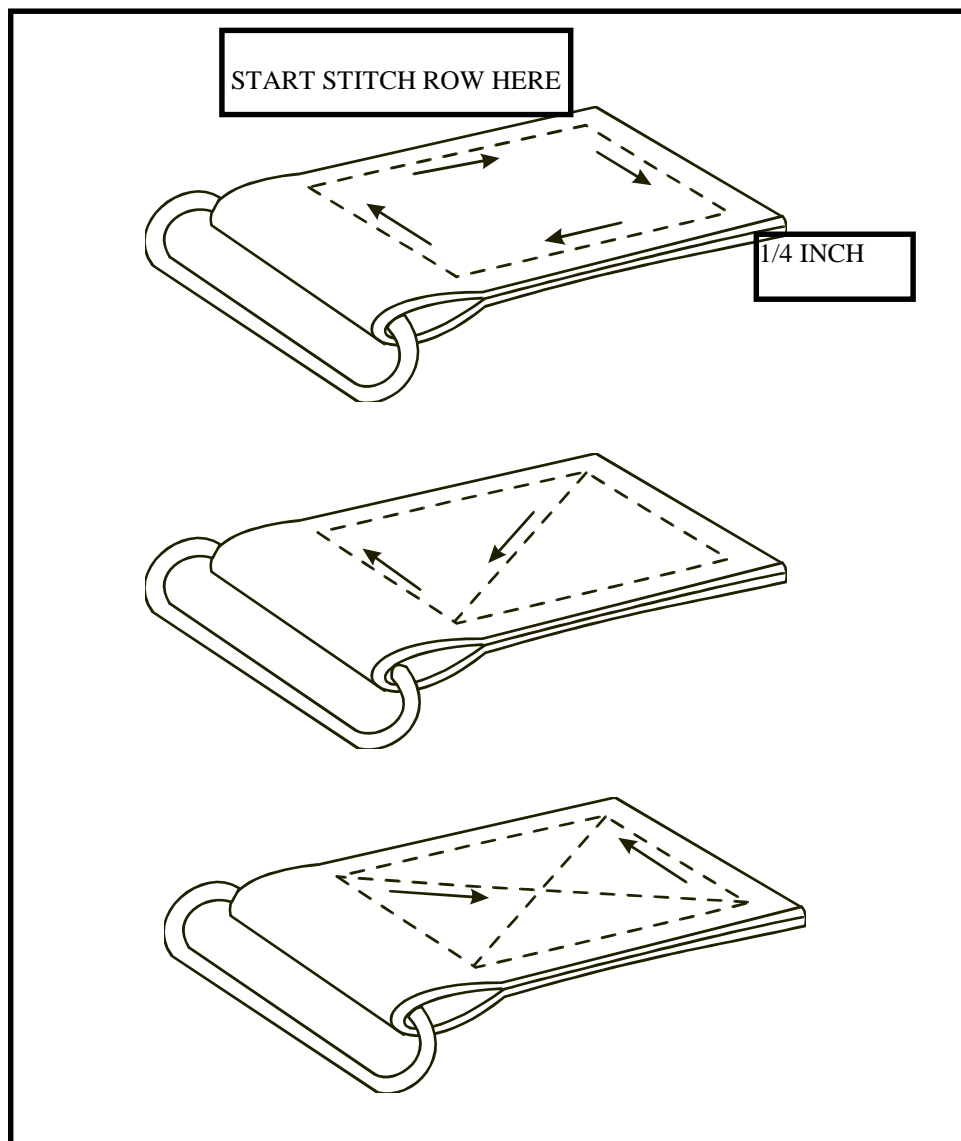

Figure 13-6. X-shaped chape seam
b. Sewing. Chapes are topstitched in place with an X-shaped seam (Figure 13-6). Webbing sewn in place with this type of stitching is less likely to pull loose. To sew a chape in place--
- (1) Position the chape on top of the canvas item.
- (2) Insert the chape and canvas under the presser foot of a heavy-duty sewing machine so that the hardware is to the left.
- (3) Start stitching a seam in the upper right-hand corner 1/4 inch from the edge. Tack the seam at the beginning.
- (4) Stitch around the four sides of the chape in a clockwise direction. Pivot the chape and canvas on the needle at each corner.
- (5) Pivot the chape and canvas on the needle, and stitch diagonally across the chape from the upper right-hand corner to the lower left-hand corner.
- (6) Pivot the chape and canvas on the needle. Stitch over the side seam to the upper left-hand corner.
- (7) Pivot the chape and canvas on the needle. Stitch across the chape diagonally from the upper left-hand corner to the lower right-hand corner.
- (8) Pivot the chape and canvas on the needle. Stitch over the side seam to the upper right-hand corner. Tack the seam at the end.